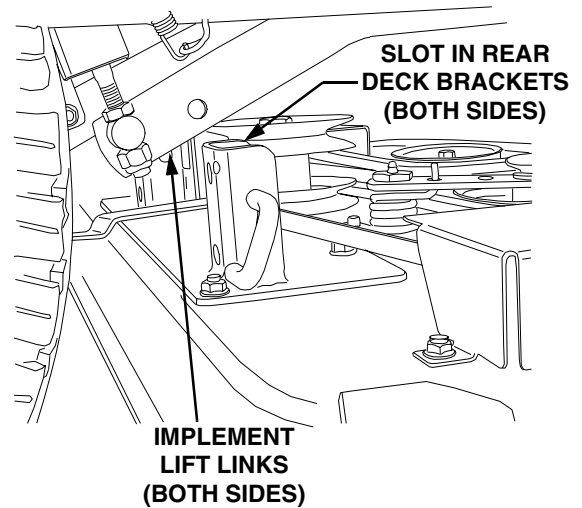

Figure 49
3. Make sure the slot in both rear deck brackets aligns with the implement lift link on each side of the tractor (Refer to Figure 49).